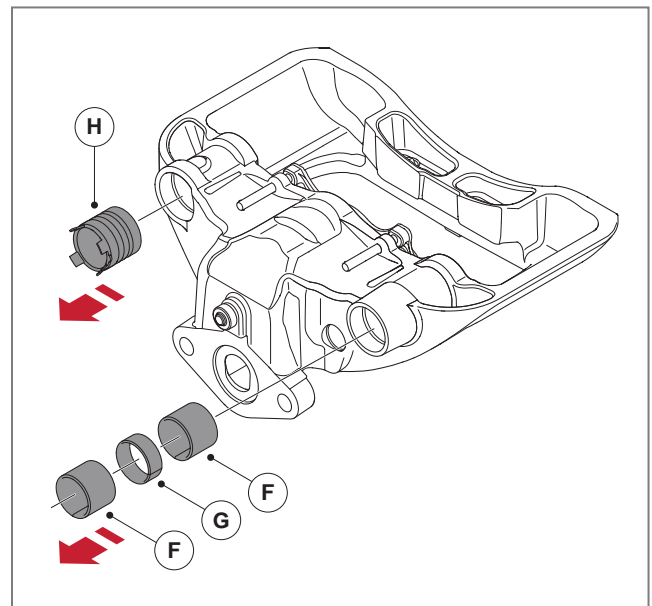

Fig. 61 - Removing the slide bearings and side composite bushing
7. Carefully follow the steps below, ► step 8 and ► step 9, to remove the two leading bearings (F) and the spacer (G) as well as the trailing composite bushing (H), see ► Fig. 61.